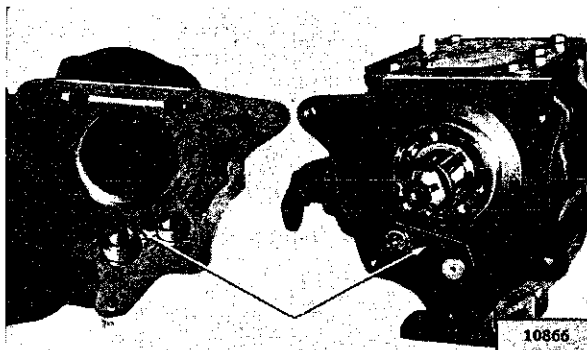

FIG. J-8—SHAFT LOCK PLATE
e. Tap lightly on the front end of the countershaft to loosen the lock plate. Remove the lock plate from slots cut in the rear ends of the countershaft and reverse idler shaft. Refer to Fig. J-8.
before the unit is installed in the vehicle. When doing this, use care that the countershaft and reverse idler shaft lock plate shown in Fig. J-8 is correctly positioned in the recess in the transfer case housing. Three $1\frac{1}{8}$ " long [2,86 cm.] screws and two 1" long [2,54 cm.] screws are used to attach the transfer case housing to the transmission housing. Install the 1" long [2,54 cm.] screws in the lower left and lower right mounting holes.